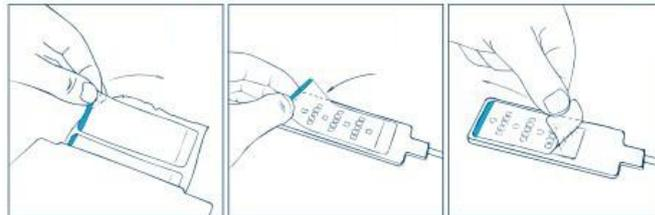

Figure 4. Handling of the adhesive tape.
2. Attach the tape to the sensor plate, press to remove any bubbles, then remove the protective plastic, see Figure 4.